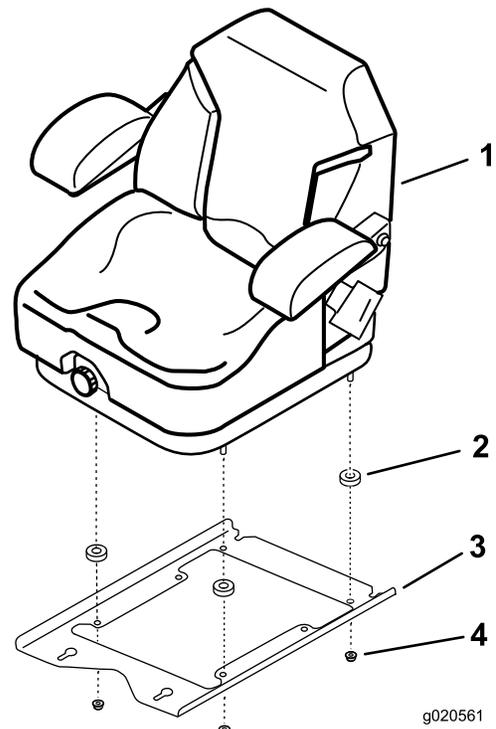

Figure 7
- Install a spacer onto each seat stud (Figure 7).
- Secure the seat frame to the seat with 4 flange nuts (5/16 inch) (Figure 7).